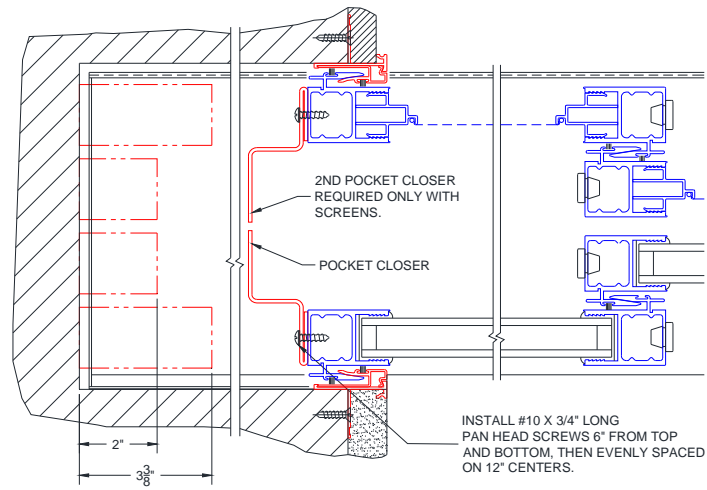

Figure 13:
4. Drill .136 diameter holes (#29 drill) thru pocket closer and one wall of interlocker. Holes to be located 6" from top and bottom of pocket closer, then evenly spaced on 12" centers. Assemble pocket closer to back side of interlocker with #10 x 3/4" long pan head screws (Figure 13).